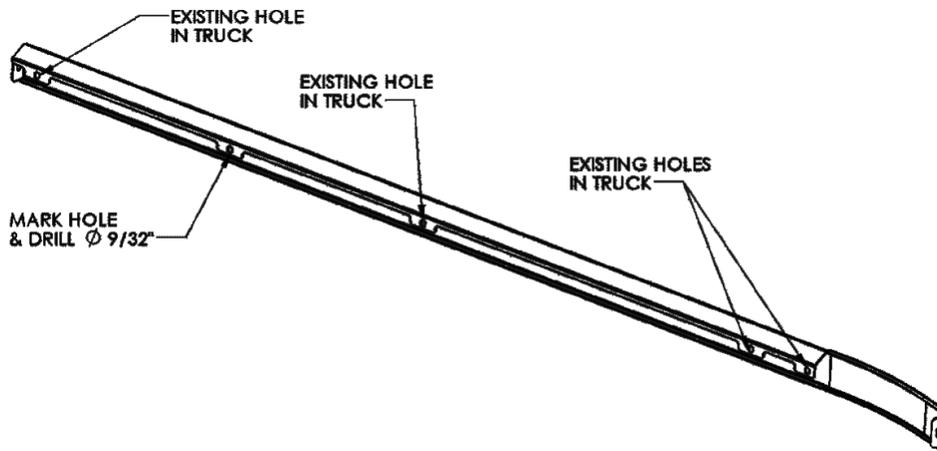

FIG. 3 – DRIVER SLEEPER PANEL, SHOWN FROM BACK
7. Temporarily fasten the sleeper skirt through four existing holes in truck (See Figure 3). Ensure the top of the skirt is snug up against the truck to minimize the gap.